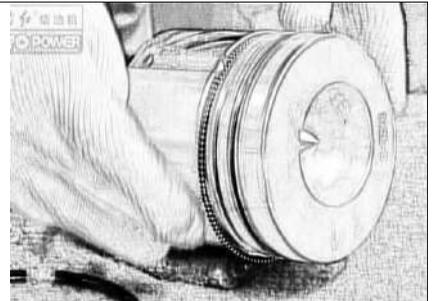

Fig 5-9 Piston and Piston Pin Installation
1.10 Arrow mark on top of piston should align with forging mark on connecting rod side. Keep block ring into groove after installing piston pin (see Fig 5-9)